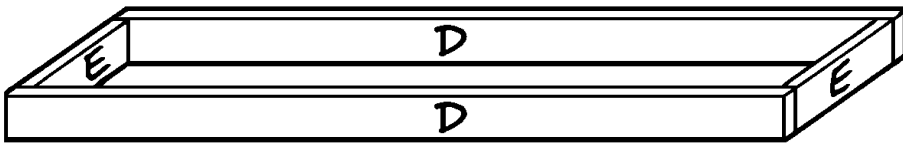

Figure 2
1. Cut four long top supports (D) from 1 x 3 pine, each measuring 50-1/2" long
2. Cut four short top supports (E) from 1 x 3 pine, each measuring 10" long.
3. Place two of the long top supports (D) on a level surface, parallel to each other, on edge, and 10" apart. Place two short top supports (E) between the two long top supports (D), as shown in *Figure 2*. Glue the supports together and insert two 1-1/4" screws through the long top supports (D) into the short top supports (E) at each joint.